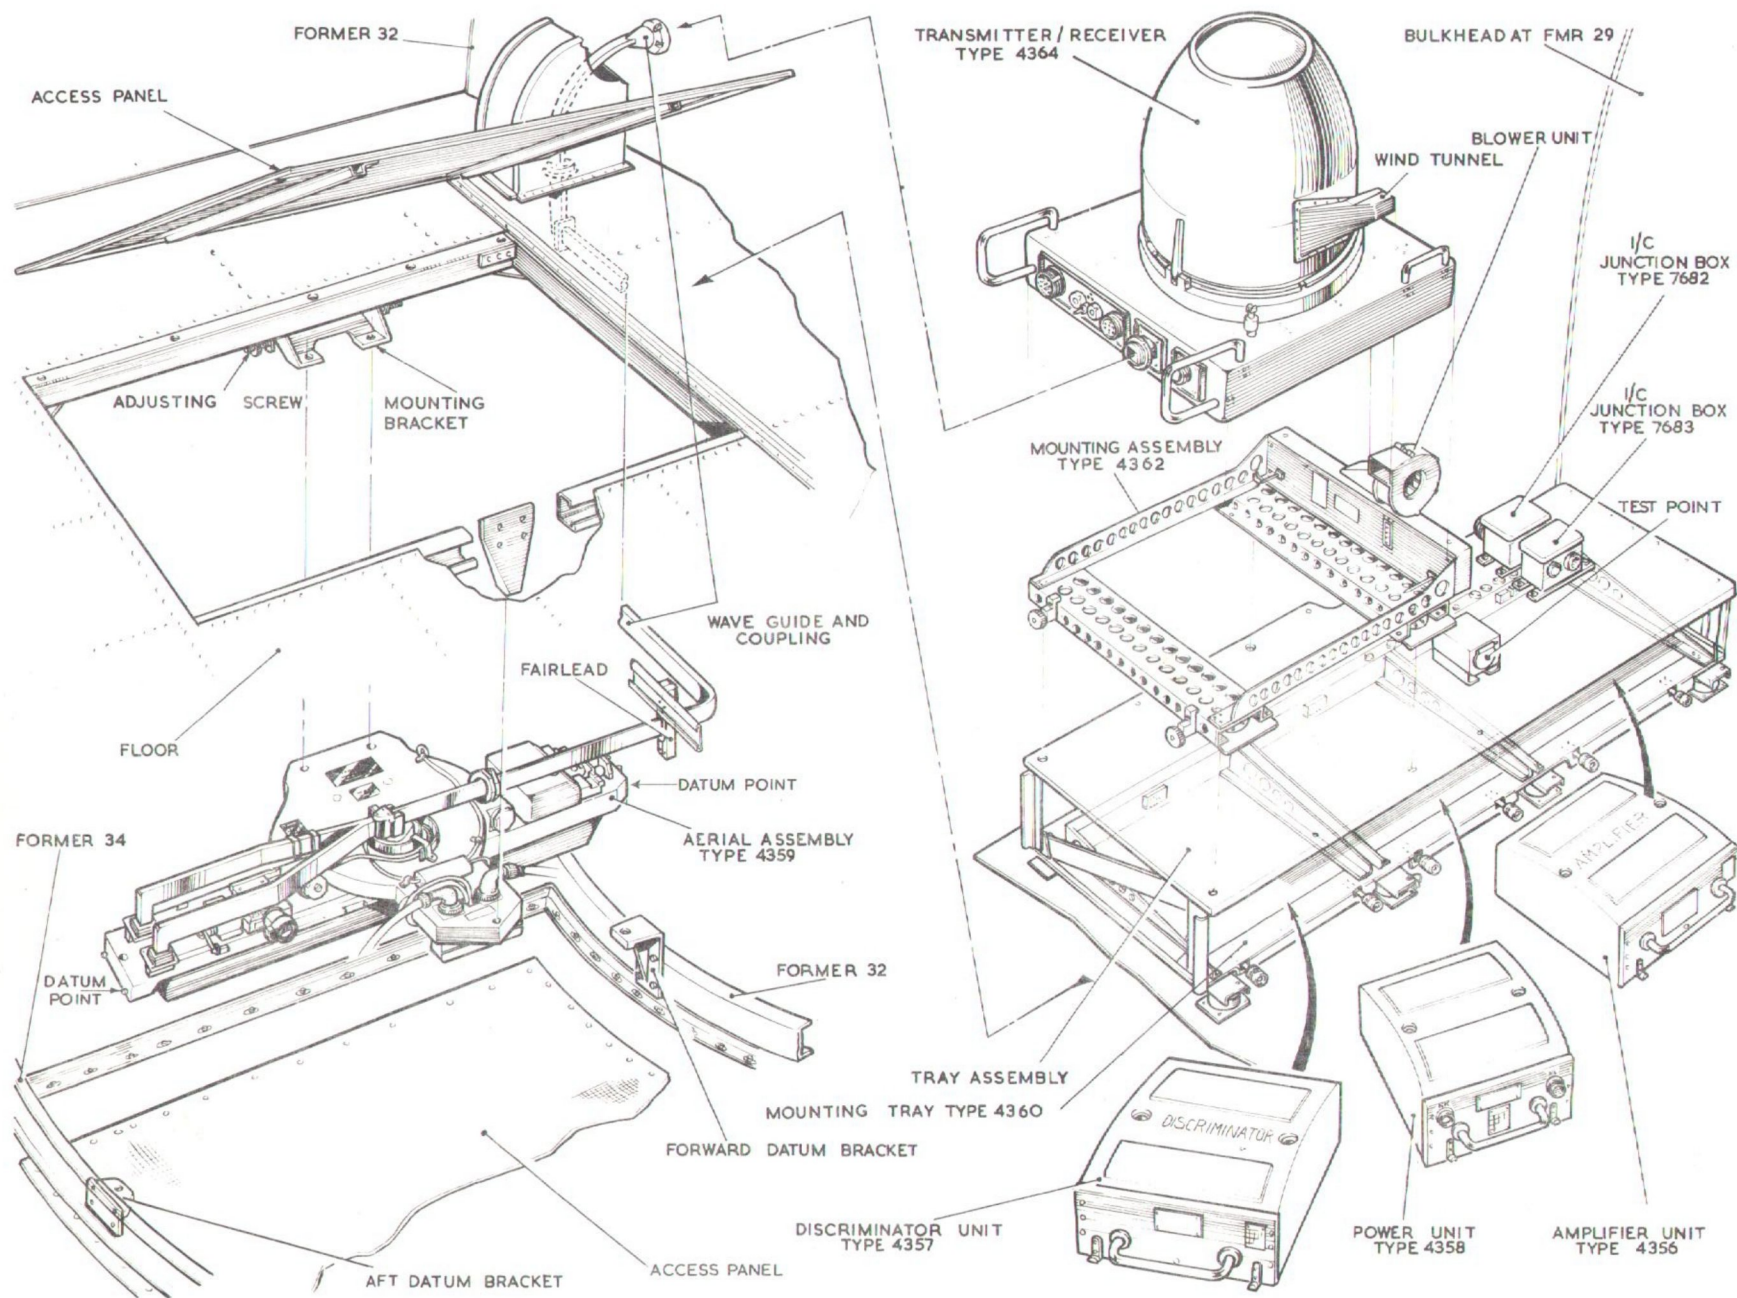

Fig.1. A.R.I. 5885 installation.
25. Two datum brackets are fitted on the centre line of the lower fuselage, as shown in fig.1, to assist in alignment